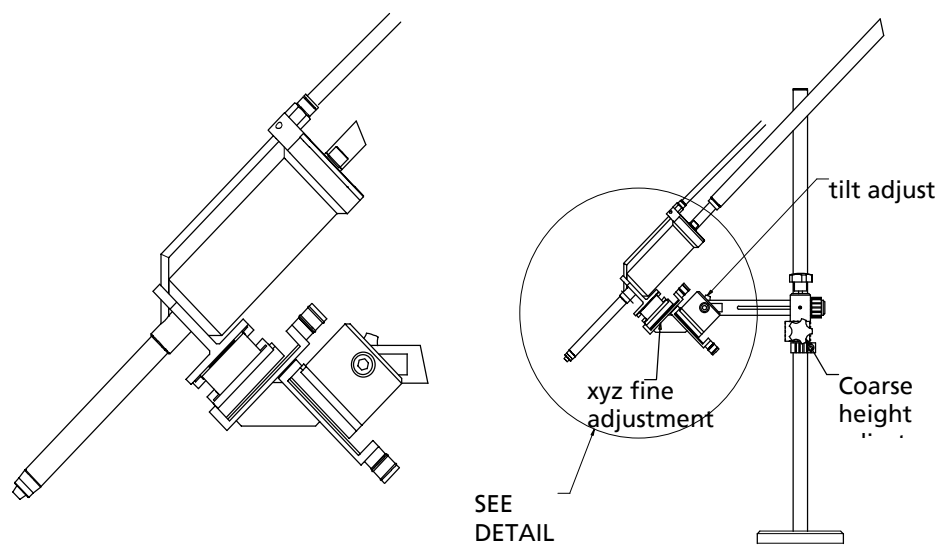
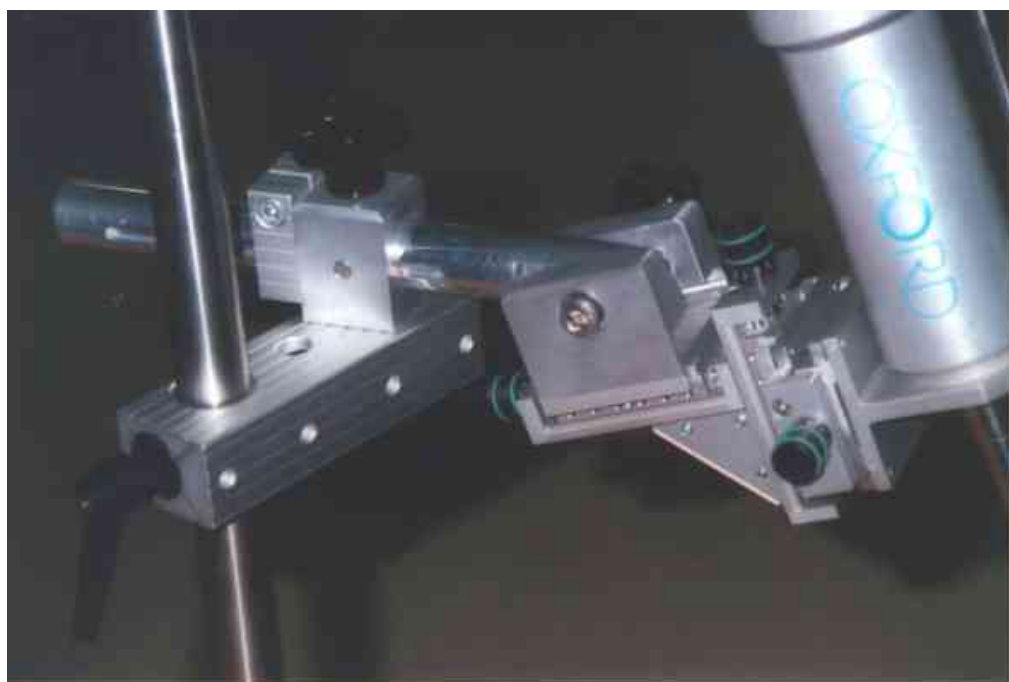

Figure 6 Coldhead and stand
Figure 7 Close-up of stand assembly
- c) Set up the stand approximately in the intended experimental position. Slide the stage assembly onto the stand and clamp in position using the lever. (See Figure 6 and Figure 7 below.) Note that the lever can be rotated to any convenient position by pulling it to disengage the lever from the clamping mechanism.